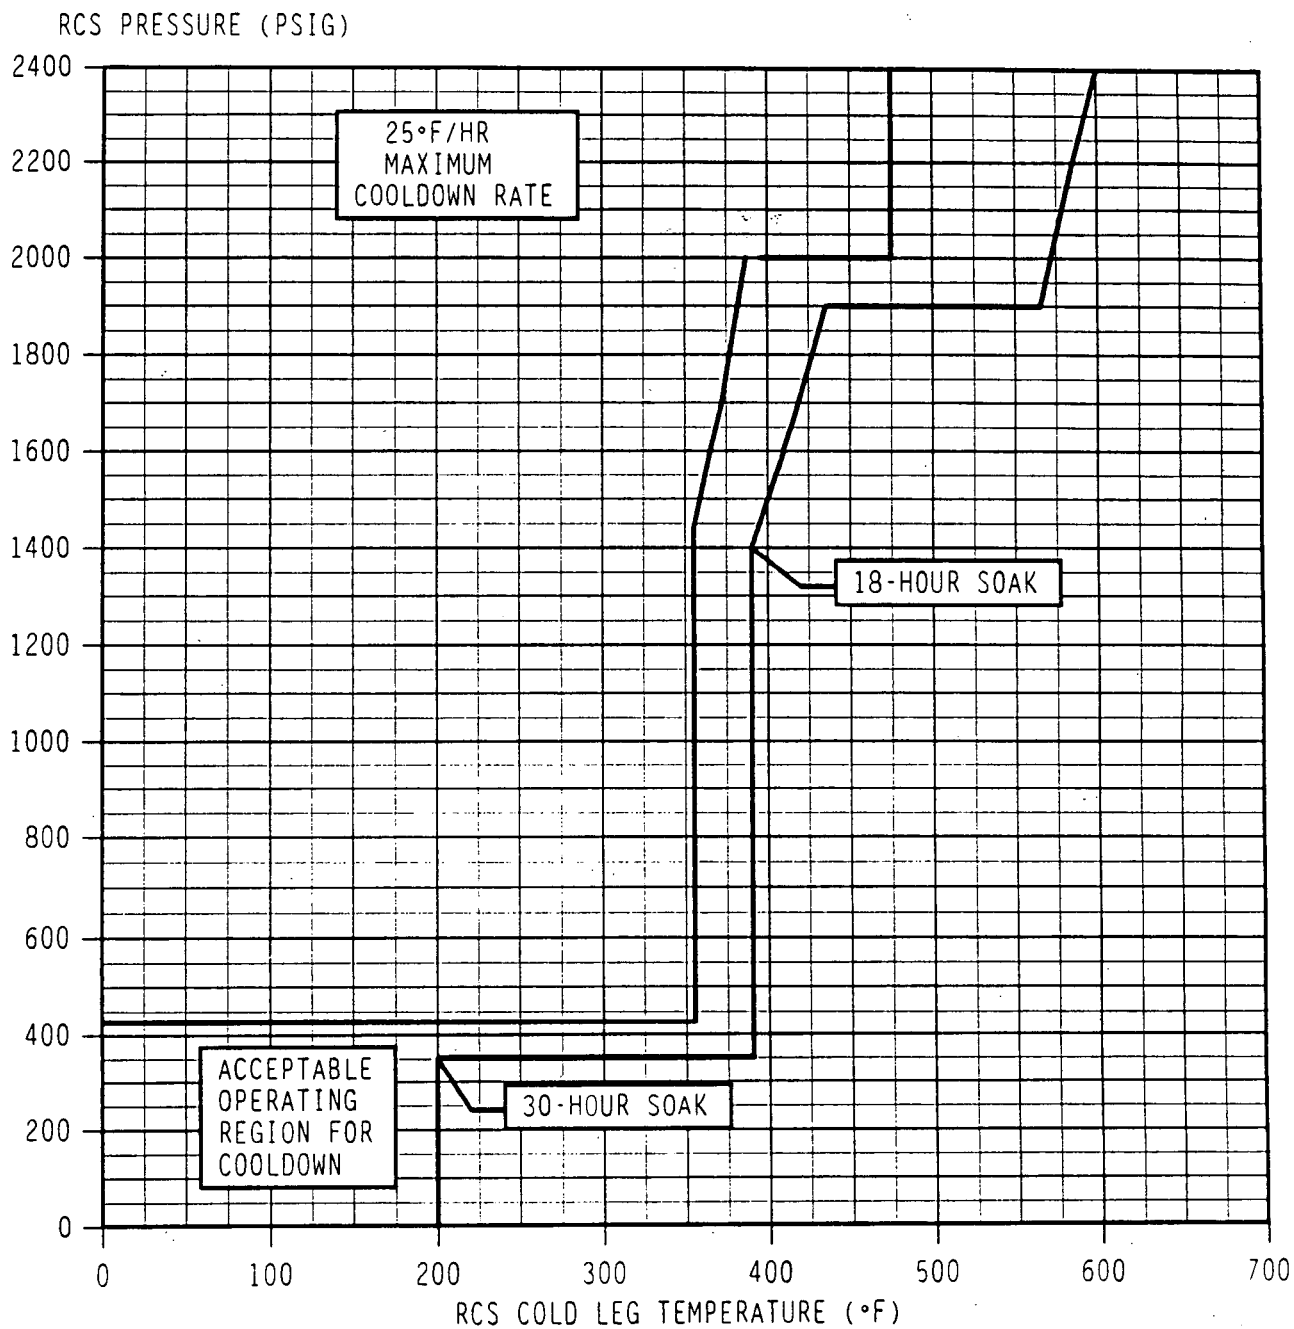

Figure E-0-07-1 Cooldown Operating Region - WITHOUT Full CRDM Cooling
- d. MAINTAIN Loop B Cold Leg WR Temperature and Przr Pressure Within Limits of Figure E-0-07-1 or E-0-07-2